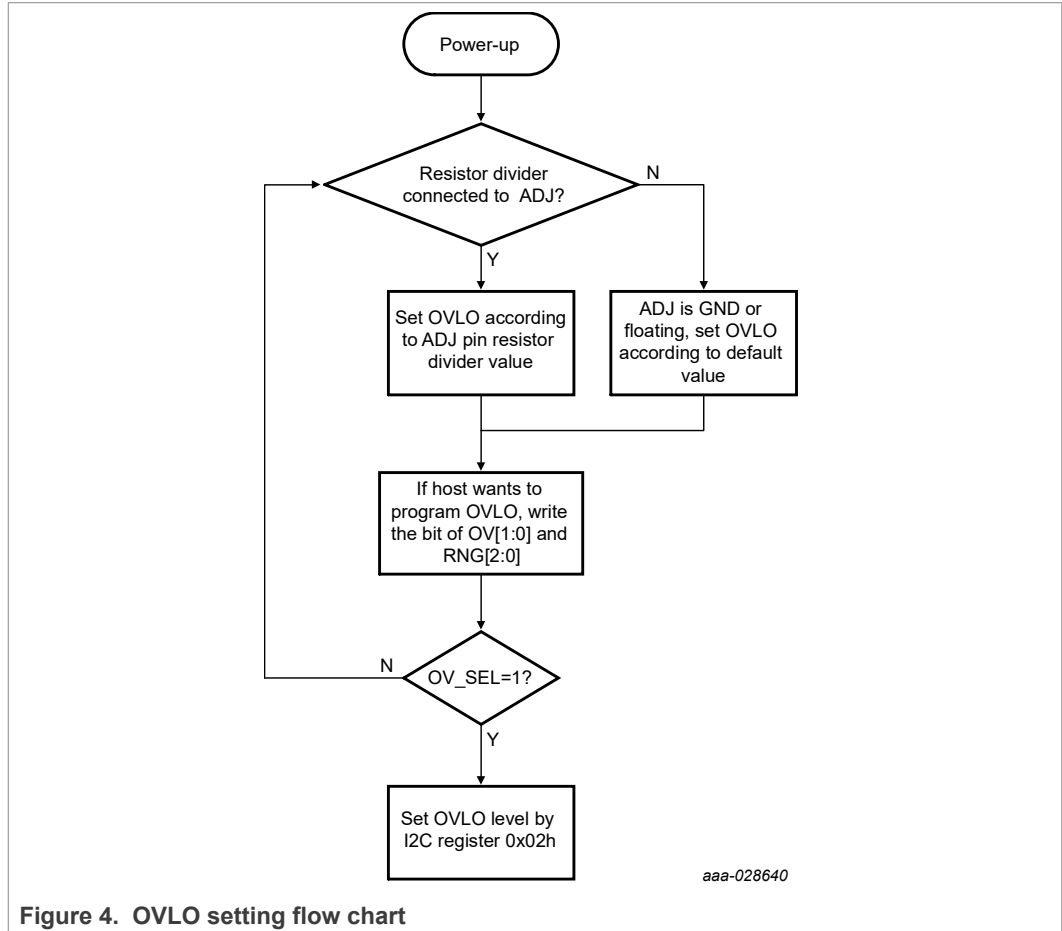

Figure 4. OVLO setting flow chart
- After power up, the OVLO threshold can be adjusted by system through the I²C register 0x05h according to the flow chart in Figure 4.